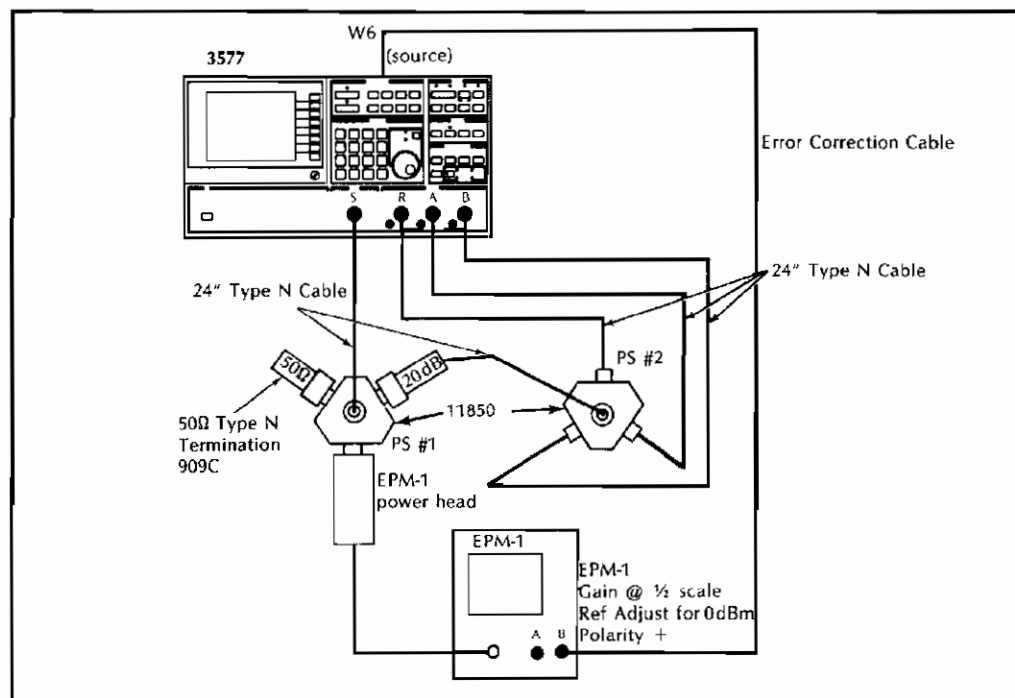
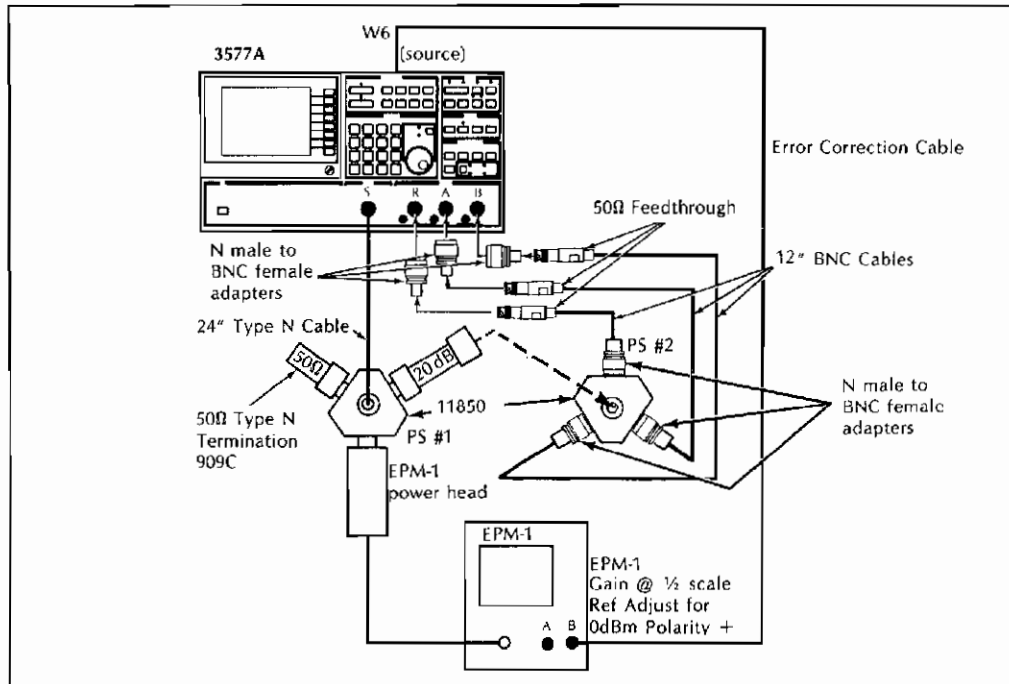

Figure 3-7 Receiver Flatness and Absolute Accuracy Test Set-Up (50 Ω)
Figure 3-8 Receiver Flatness and Absolute Accuracy Test Set-Up (1 MΩ)
- k. Connect the equipment as shown in Figure 3-7 (Figure 3-8 for $1\text{ M}\Omega$). The EPM-1 Error Correction Cable connects to W6 at the top of the 3577A source board, A8, after removing the jumper. The EPM-1 level power meter will swing from -0.2 dBm to $+0.2$ dBm several times and settle to some level between the two points. Adjust the reference control on the front panel of the EPM-1 until the meter reads 0 dBm.